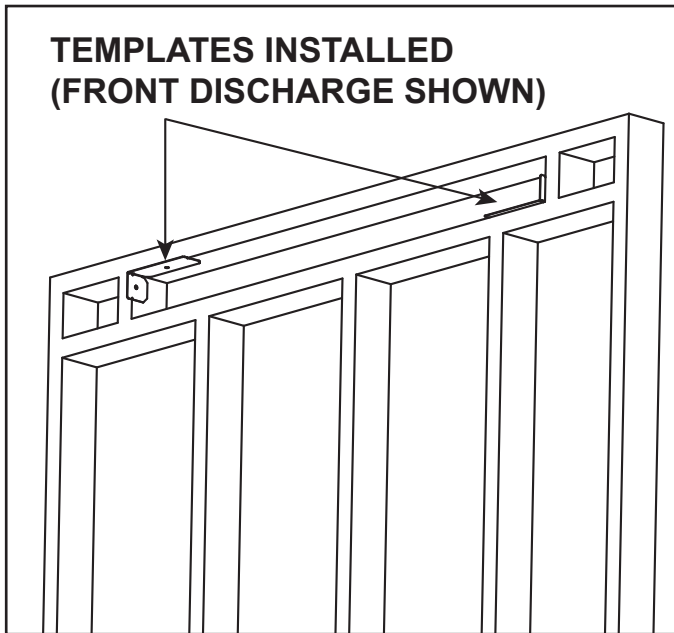
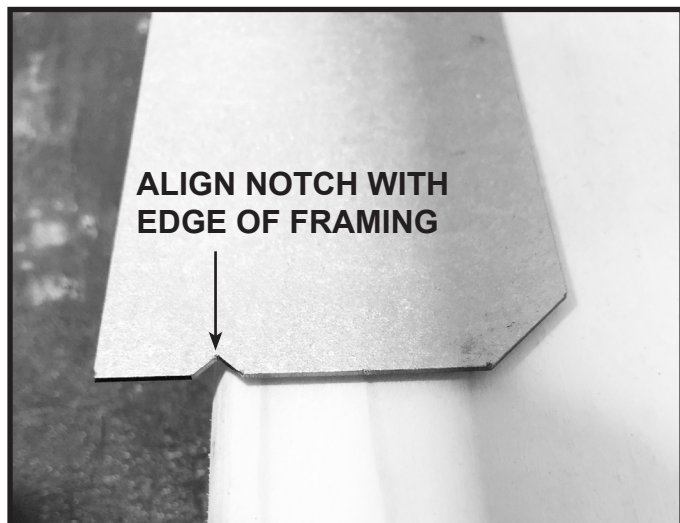

Figure 11 Template Installation
Figure 12 Template Notch Alignment
2. Place one template into the top left corner of the discharge opening as shown in Figure 11. Align the outside edge of the framing with the notch in the template as shown in Figure 12. Attach to framing using wood screws.